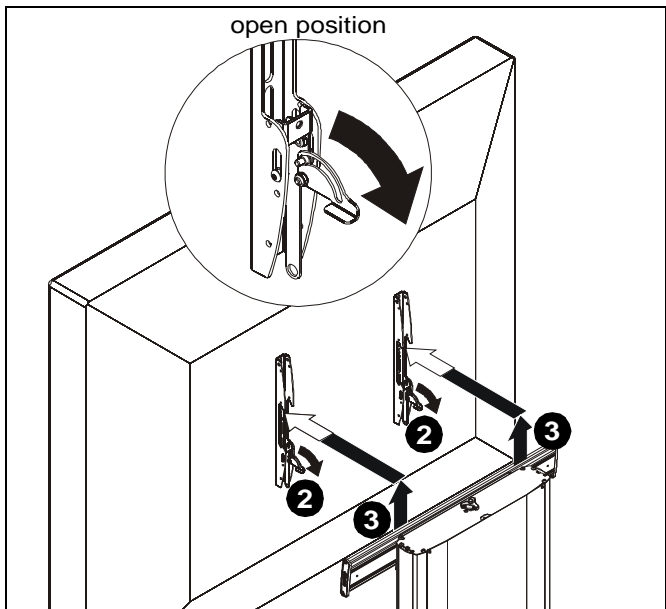

Figure 23
2. Position latches on interface uprights so that they are in the "open" position. (See Figure 23)
3. Carefully lift display from cart. (See Figure 23)